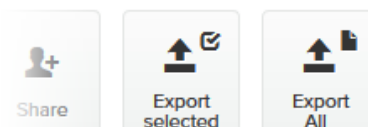

Figure 70. Plug-ins web page (code export controls)
4. To export only selected Activation codes, check the selection check-boxes to the left of each plug-in that must be included in the *.CSV file, then click the **Export selected** button. Alternatively, export all Activation codes by clicking the **Export All** button (Figure 70 (page 155)).